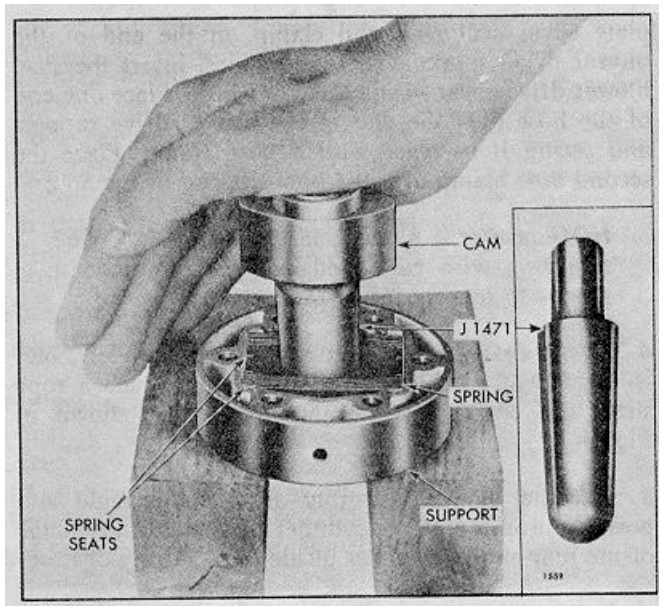

FIG. 27 - Inserting Blower Drive Cam in Springs
- a. Place the drive coupling support on two wood blocks (Fig. 27).
- c. Lubricate the springs with light engine oil. Then place the spring packs, consisting of 21 leaves per pack, in the support with the spring seats in position as shown in Fig. 27.
installer J 1471, with the large chamfered inside diameter end of the cam facing up. Insert the tapered end of the installer between the spring packs (Fig. 27) and push the drive cam until it is centered between the spring packs. Remove the installer from the drive cam.